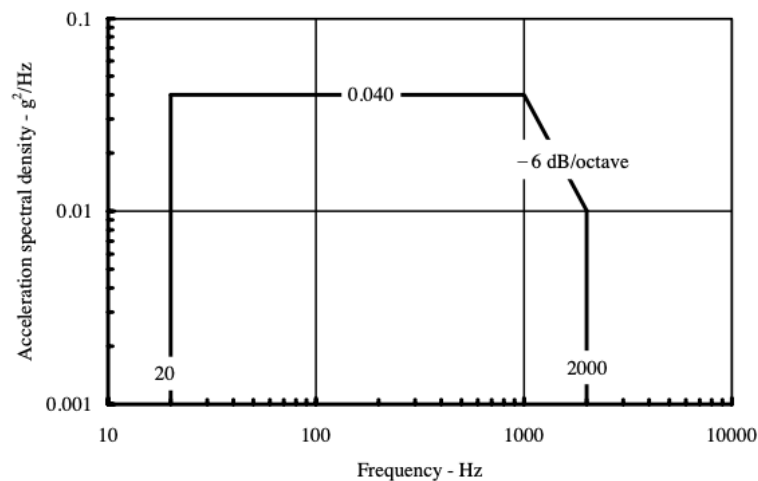

Figure 11.1: General minimum integrity exposure profile for vibration testing, ref. MIL-STD-810F Fig. 514.5C-17
- Vibrations: 1 hour per axis of the vibration profile depicted in Fig. 11.1